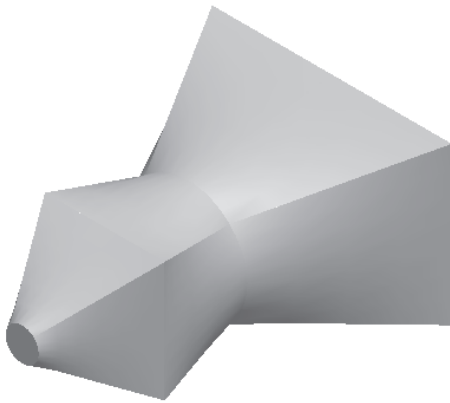
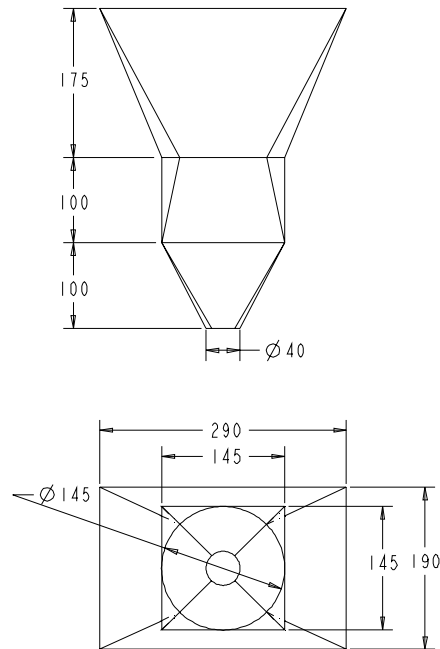

Figure 7-108 Isometric view of the model
Figure 7-109 Top and front views of the model
In this tutorial, you will create a blend feature shown in Figure 7-108. The two views of the blend feature are shown in Figure 7-109 with dimensions. After creating the model, you will redefine it such that the straight blending is changed into a smooth blending.
- a. Examine the blend feature and determine the number of sections in it. The blend consists of four sections, refer to Figure 7-109.
After the sketches of all sections are completed, you need to specify the depth between each section. The dimensions for depth between each section can be referred from Figure 7-108.